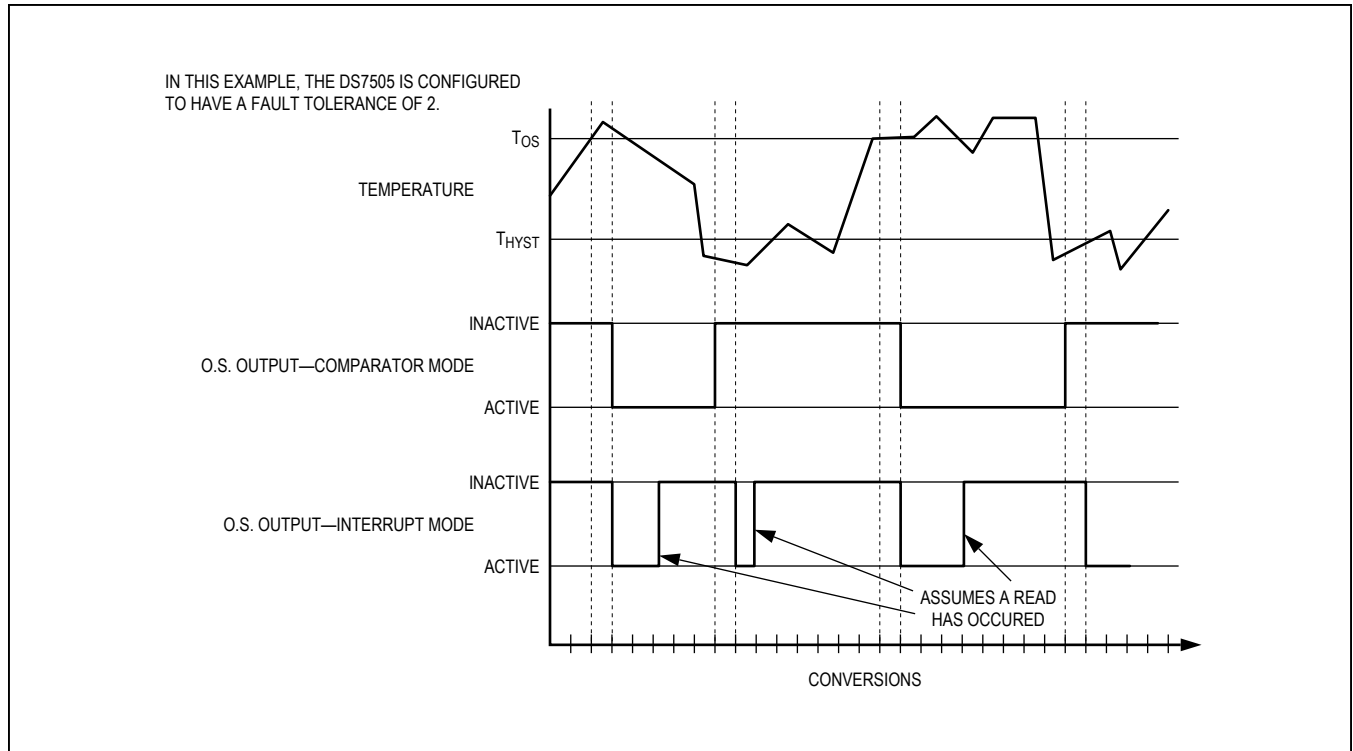

Figure 4. O.S. Output Operation Example
When the thermostat is in comparator mode, O.S. can be programmed to operate with any amount of hysteresis. The O.S. output becomes active when the measured temperature exceeds the T_{OS} value a consecutive number of times as defined by the F1 and F0 fault tolerance (FT) bits in the configuration register. O.S. then stays active until the first time the temperature falls below the value stored in T_{HYST} . Putting the device into shutdown mode does not clear O.S. in comparator mode. Thermostat comparator mode operation with FT = 2 is illustrated in Figure 4.
measured temperature falls below the T_{HYST} value a consecutive number of times equal to the FT value. Again, O.S can only be cleared by putting the device into shutdown mode or reading any register. Thus, this interrupt/clear process is cyclical between T_{OS} and T_{HYST} events (i.e. T_{OS} , clear, T_{HYST} , clear, T_{OS} , clear, T_{HYST} , clear, etc.). Thermostat interrupt mode operation with FT = 2 is illustrated in Figure 4.